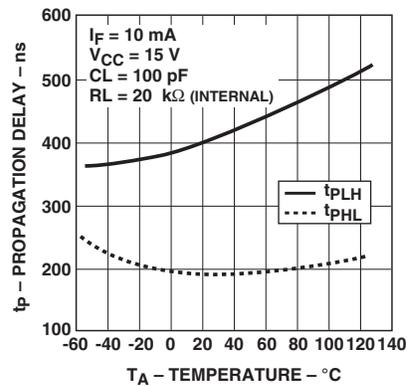

Figure 8. Propagation delay with internal 20 kΩ RL vs. temperature
- Due to the tolerance of the internal resistor, and since propagation delay is dependent on the load resistor value, performance can be improved by using an external 20 kΩ 1% load resistor. For more information on how propagation delay varies with load resistance, see Figure 8.